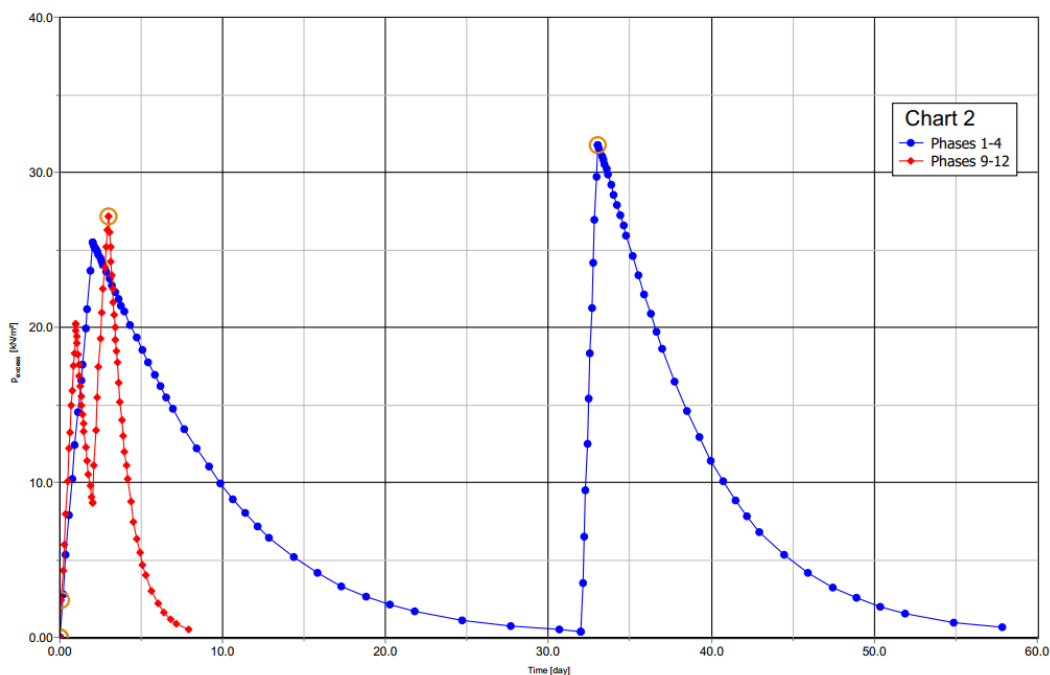

Figure 111: Effect of drains
11. Click **OK** to close the **Settings** window. Figure 111 (on page 135) gives a clear view of the effect of drains in the time required for the excess pore pressures to dissipate.